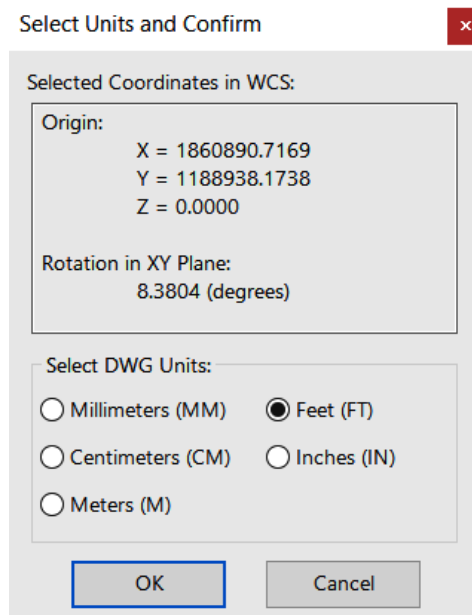

Figure 13.5 – Select Units and Confirm dialog box
9. Once both points have been defined, we'll be prompted with a **Select Units and Confirm** dialog box, at which point we'll change our **Select DWG Units** from **Meters (M)** to **Feet (FT)** to match our files, as shown in *Figure 13.5*.